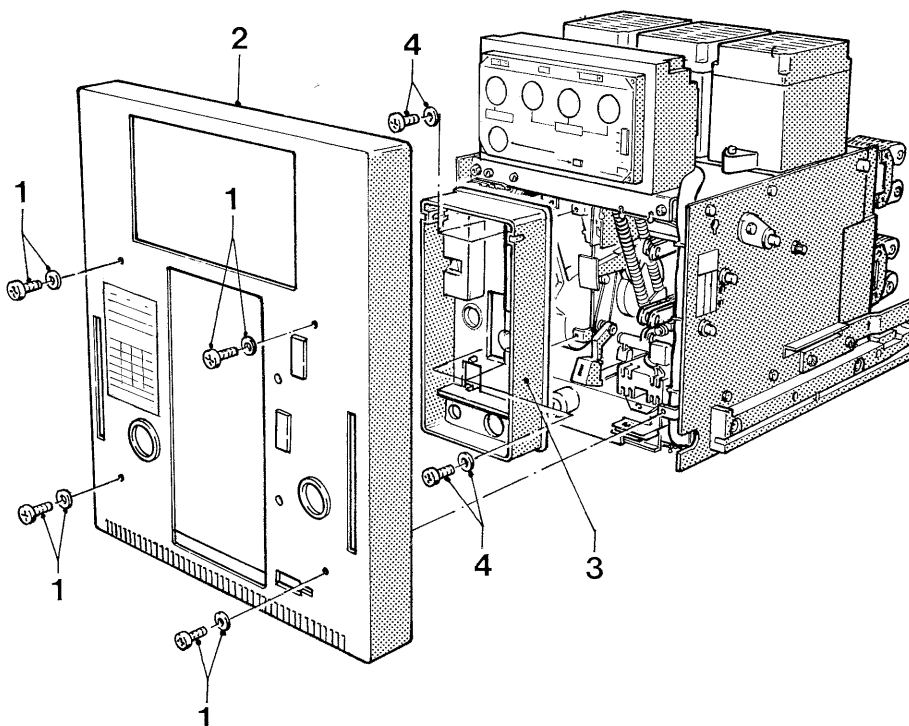

Fig. 13
Rimuovere lo scudo frontale (2) - Fig. 13, togliendo le viti (1).
Remove the front shield (2) - Fig. 13, by loosening screws (1).